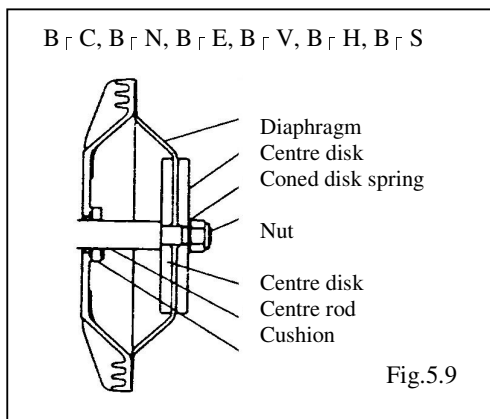

Fig.5.9
- Insert the cushion (except with the NDP-80). (Fig. 5.9)
- Draw the centre disk to one side (exclude B□H, B□S type Fig. 5.9).